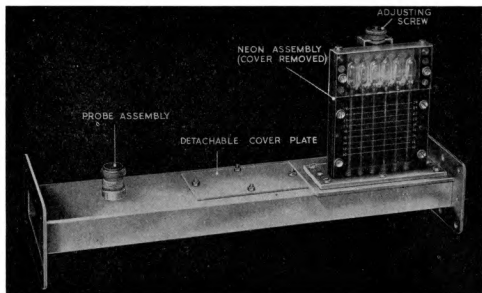

Fig. 8. Output tester Type 65 : general view
**Output tester Type 65 (fig. 8)**
**26.** Output tester Type 65 is a high-power standing-wave indicator and power measuring device for the band 9.8 to 10.2 cm. It consists of a short length of 3 in.  $\times$  1 in. waveguide with six neon tubes (CV360), of special design, arranged along the 3 in. face and backed by a graduated scale as shown in fig. 8. In practice the output tester forms a section of the waveguide run and is located immediately above the transmitter box.